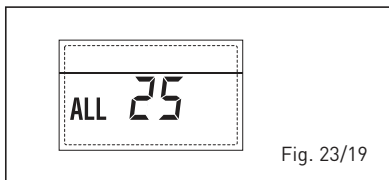

Fig. 23/19
- AUXILIARY SENSOR ERROR (S3) "ALL 26" (fig. 23/20)